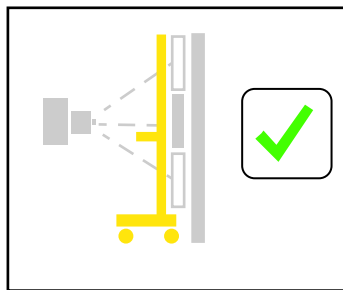

Fig. 4-32 Patient protection
4. Verify that the patient protection is placed in front of the wallstand by pressing the *green check* button on the display, see **Fig. 4-32**.